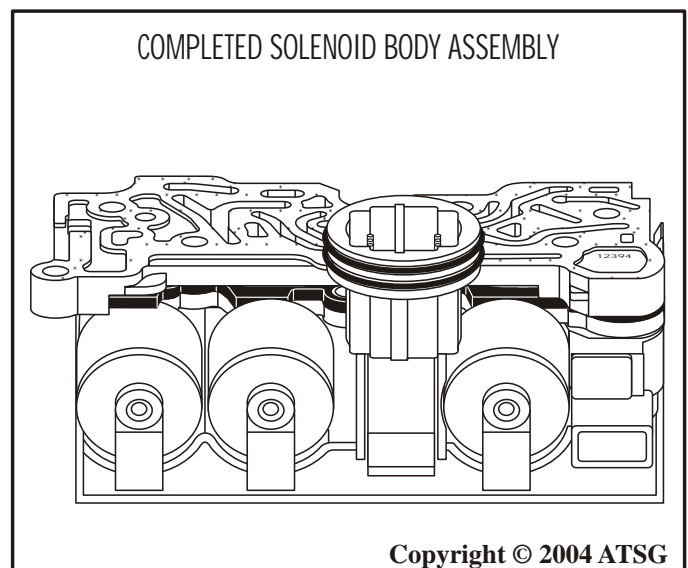

Figure 122
9. Set the completed solenoid body aside for the final assembly process (See Figure 122).